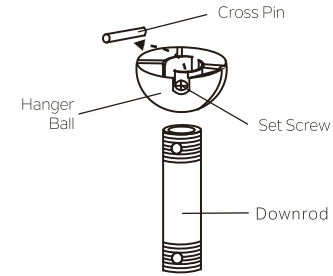

Fig. 7
Step 5. Remove the hanger ball from the downrod assembly by loosening the set screw, unscrewing and removing the cross pin and unscrewing the ball from the rod. (Fig. 7)